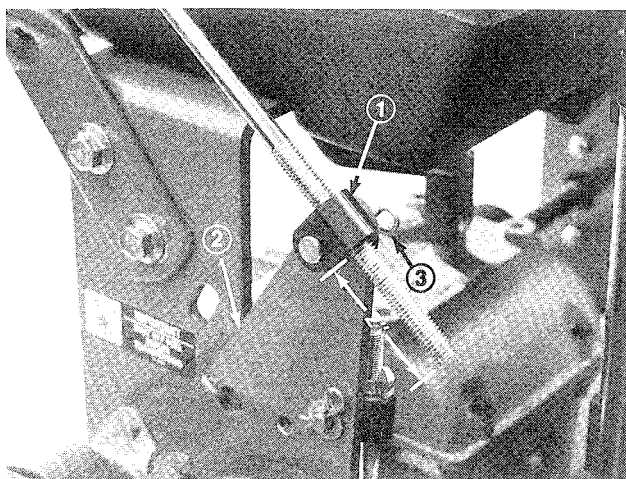
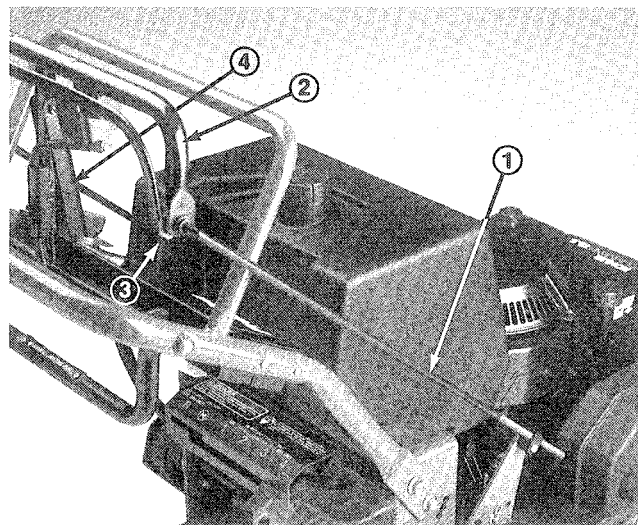

Figure 7
Figure 8
1. Thread a rod fitting onto each control rod approximately 2" (Fig. 7) or until upper control bar (Fig. 8) is approximately perpendicular to the ground.
2. Mount rod fitting ends to mounting holes in idler brackets (from outside) with clevis pins, washers and hairpin cotters (Fig. 7).
3. Check gap between upper control bar and upper handle when fully engaging wheel belts. Gap should be approximately 1 to 1-1/4" (Fig. 8).
5. Brake rods should be adjusted so parking brake lever can be swung into a snug position against the upper handle while pulling back on upper control bar (Fig. 8).